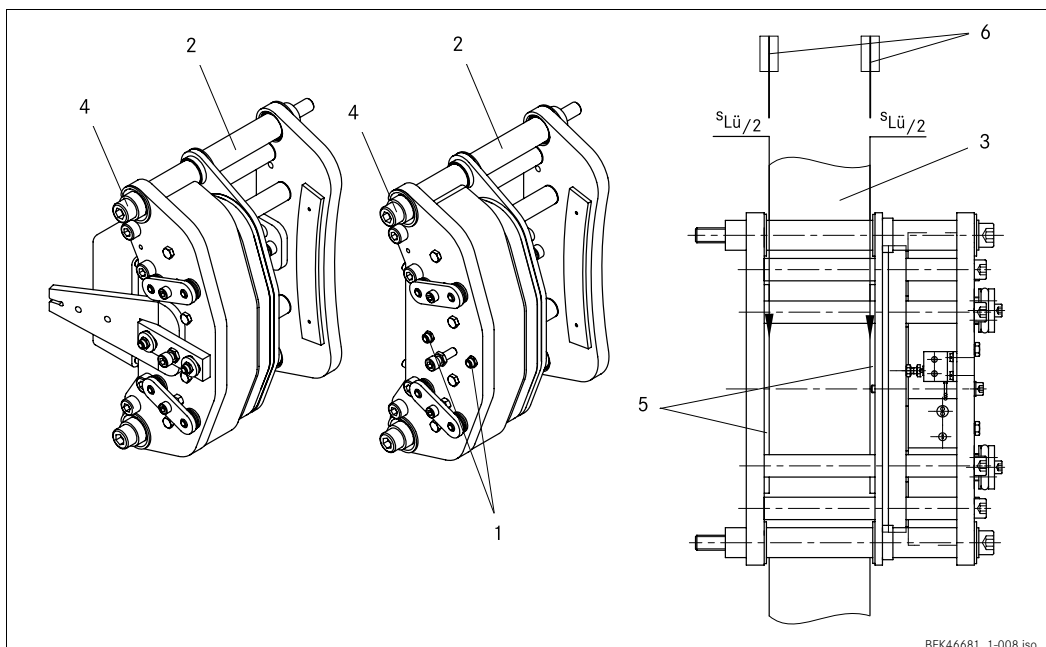

Fig. 4 Installation of the INTORQ BFK466-12 spring-applied brake with and without manual release
3. Remove the transport screws (1).
- Remove transport screws (1) Fig. 4.
- Undo lock nut and slacken transport screw (6) Fig. 4, until screw is approx. 1 mm from the stator.
5. Check the clearance of the brake disk and the air gap " s_{air} " between the two friction linings (5) and the brake disk (3) with a feeler gauge (6).